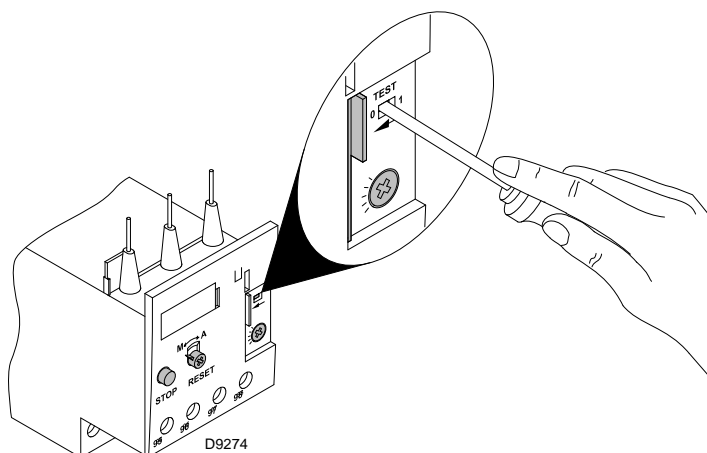

Fig. 18
- To test the thermal relay, insert a screwdriver in the window "TEST" (Fig. 18) and move it in the sense of the arrow (towards right).